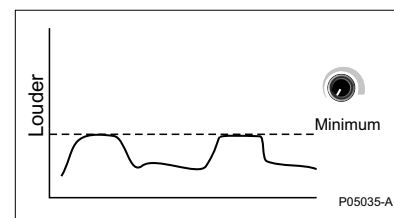

Figure 4.11 Minimum volume
- If the **Volume** were to be turned down close to minimum, it potentially will limit all signals to such a degree that most targets will be lost (see figure 4.11).